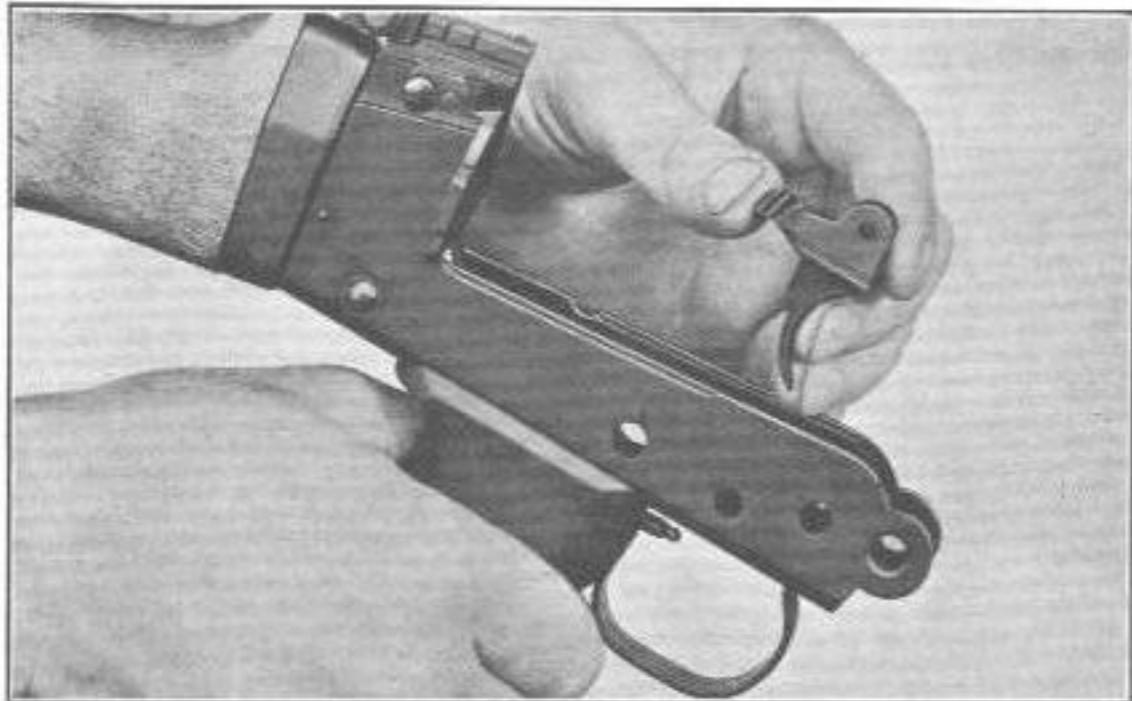

Fig. 101
d) **Trigger.** — Remove the trigger, releasing it from the trigger plunger (fig. 101).